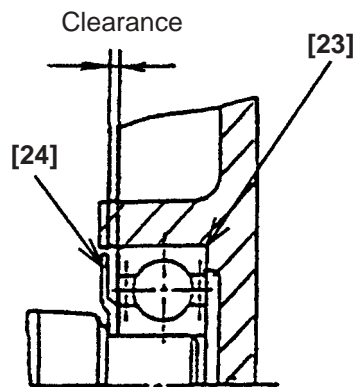

Fig. 9
(2) Replacement of the Ball Bearing 608VVC2PS2L [23] (See Fig. 9.)